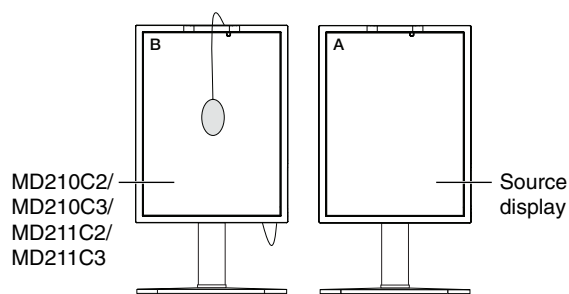

Figure C.2
7. When you want to confirm the white point of Display B, remove the USB color sensor from source Display A and place in the center of Display B (Figure C.2). To skip the white point confirmation, Display B, press “SELECT” to step 9 for FINE TUNING.